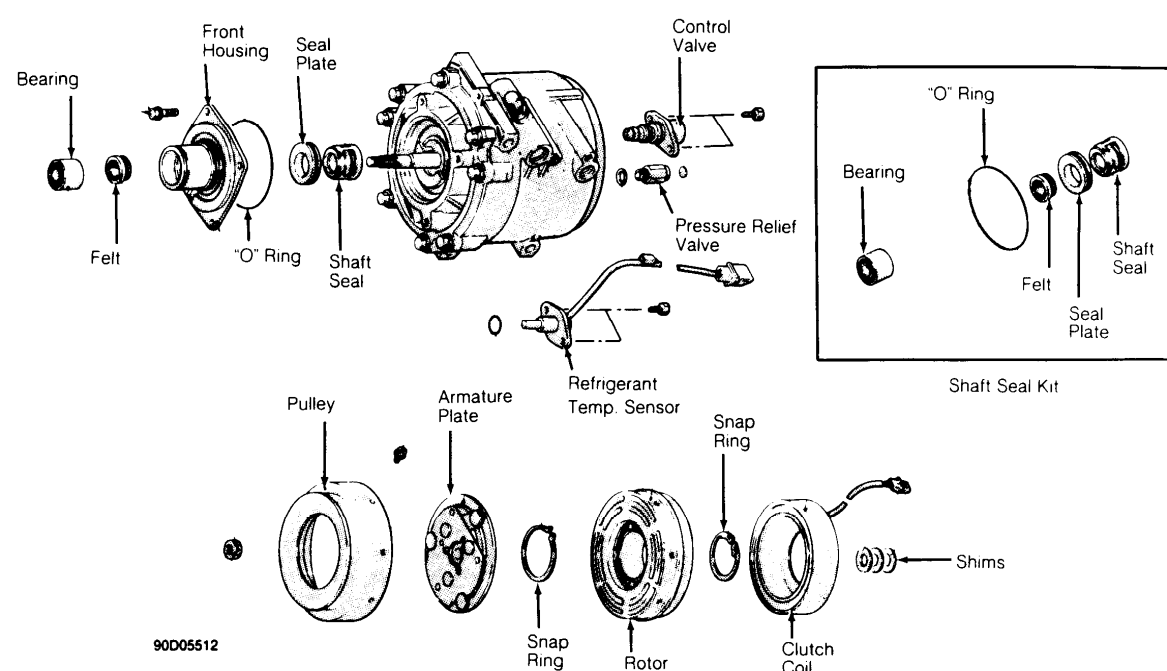

Fig. 7: Harrison R-4 Radial Compressor
2. Using Seal Installer (J-33011), install "O" ring and coat with refrigerant oil. Coat seal seat with refrigerant oil and install using seal seat remover/installer. Install snap ring. Install dust seal (if supplied in seal kit). See Fig. 7.